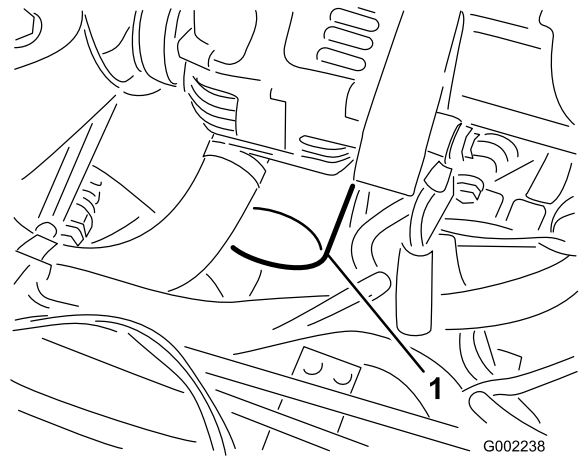

Figure 43
7. Remove the old oil filter (Figure 43).
10. Install the replacement oil filter to the filter adapter. Turn the oil filter clockwise until the rubber gasket contacts the filter adapter, then tighten the filter an additional 1/2 turn (Figure 43).